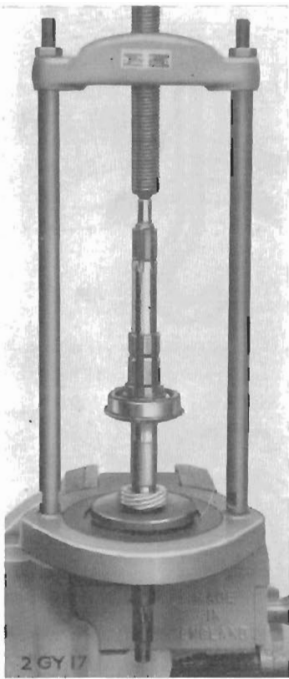

Fig. 38. Refitting the speedometer drive gear.
Next press the speedo drive gear (76) on to the mainshaft as shown on Fig. 38 and spring the large circlip (101) into the ball race groove.